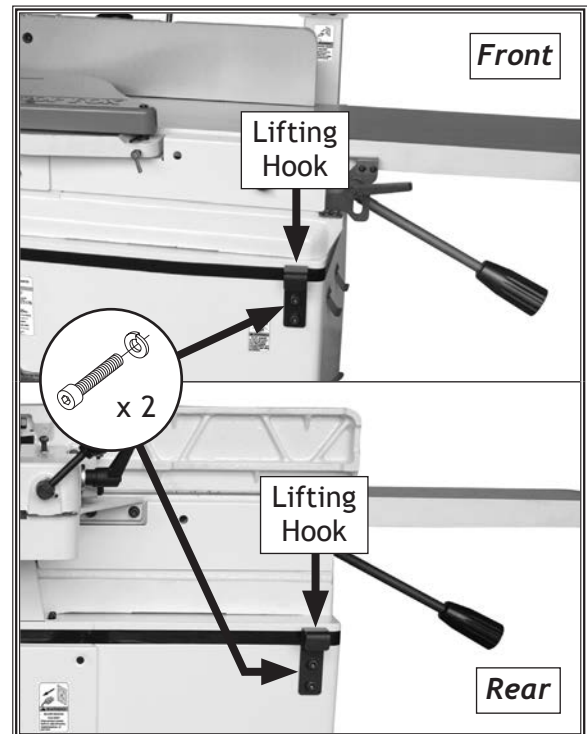

Figure 9. Lifting hooks attached.
3. If moving and placing machine with power lifting equipment, attach (2) lifting hooks to front and rear of jointer stand with (4) M8-1.25 x 20 cap screws and (4) 8mm lock washers (see **Figure 9**).